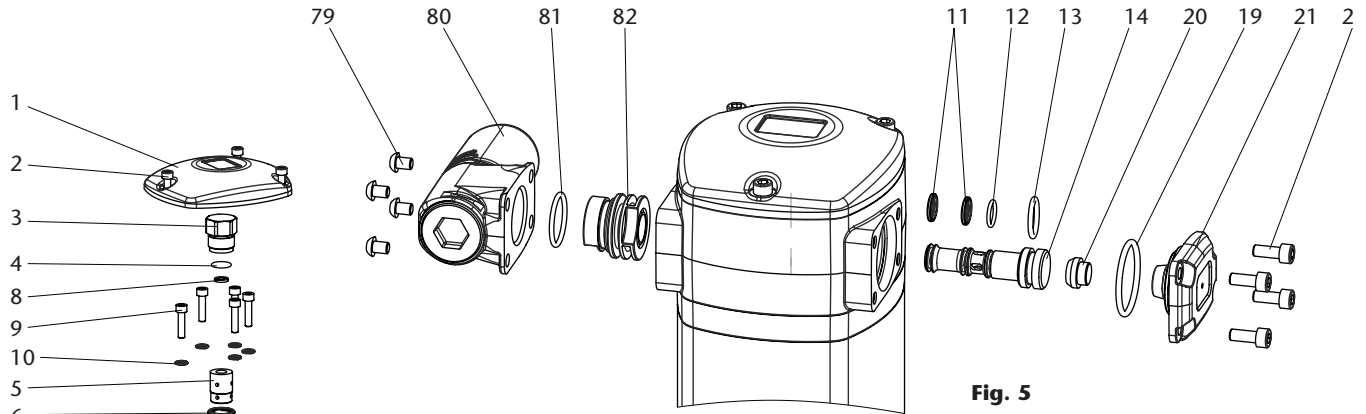

Fig. 5
## AIR DISTRIBUTOR (FIG. 5)
1. Unscrew the 4 bolts (2) from the cover (21) and remove it.
2. Unscrew the 4 bolts (79) from the muffler (80) and remove it together with the seal (81) and the muffler resonator (82).
3. Gently strike the spool (14) with a plastic tool by its minor diameter side (see Fig. 5), through the motor, and remove the spool (14).
4. Replace the seals 2x(11), (12) and (13) with new ones or replace the whole spool (14) with its seals factory installed (kit 539505). This is strongly recommended in order to ensure the correct assembly of the seals.